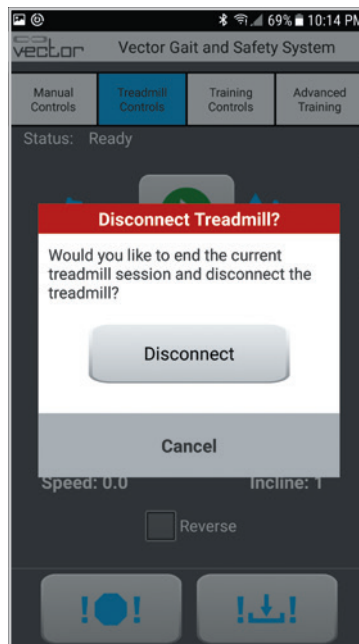

Figure 9-19: Disconnect Treadmill Confirmation Dialog Box
9. To end the treadmill session, press the Stop button and select Disconnect on the dialog box. See Figure 9-19.